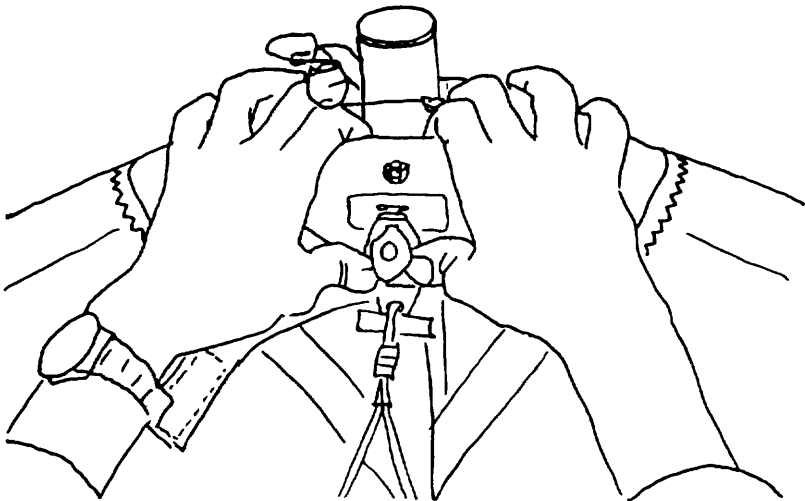

Fig 28
16) Attach the bottom front wires at the nose using the following procedure: First, be sure that the glider is sitting as level as possible, that neither wing tip is resting hard on the ground, and that the control bar base is pulled all the way forward so as to tension the bottom rear wires and put the rear of the keel on the ground. Lift the keyhole tang to the head of the bolt on the bottom of the keel. Press upward on the tang while pulling down on the nose of the glider (Fig 28), and the tang will slide over the bolt and pop into place. Note: Do not try to use the "T" handle on the tang, it is used only for removing the tang. Press instead on the tang itself on either side of the hole. Attach the rubber safety.